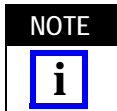
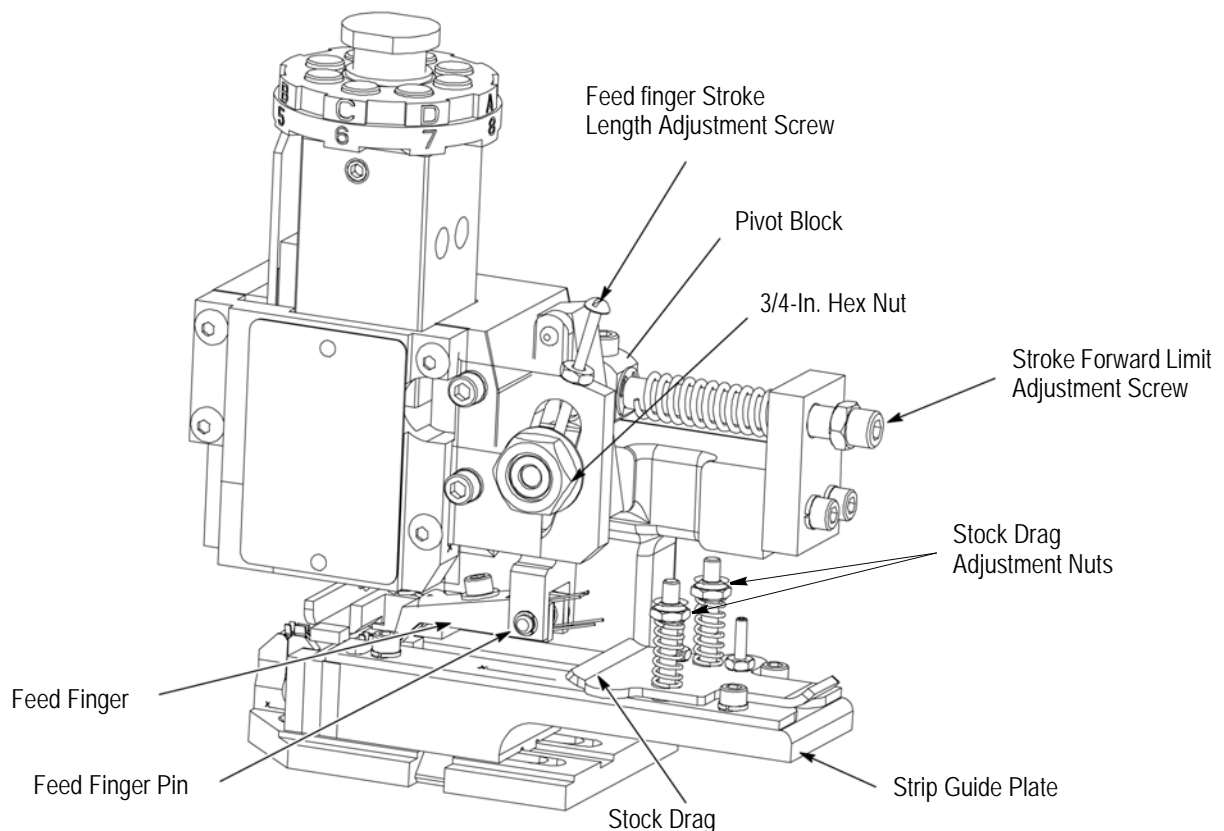
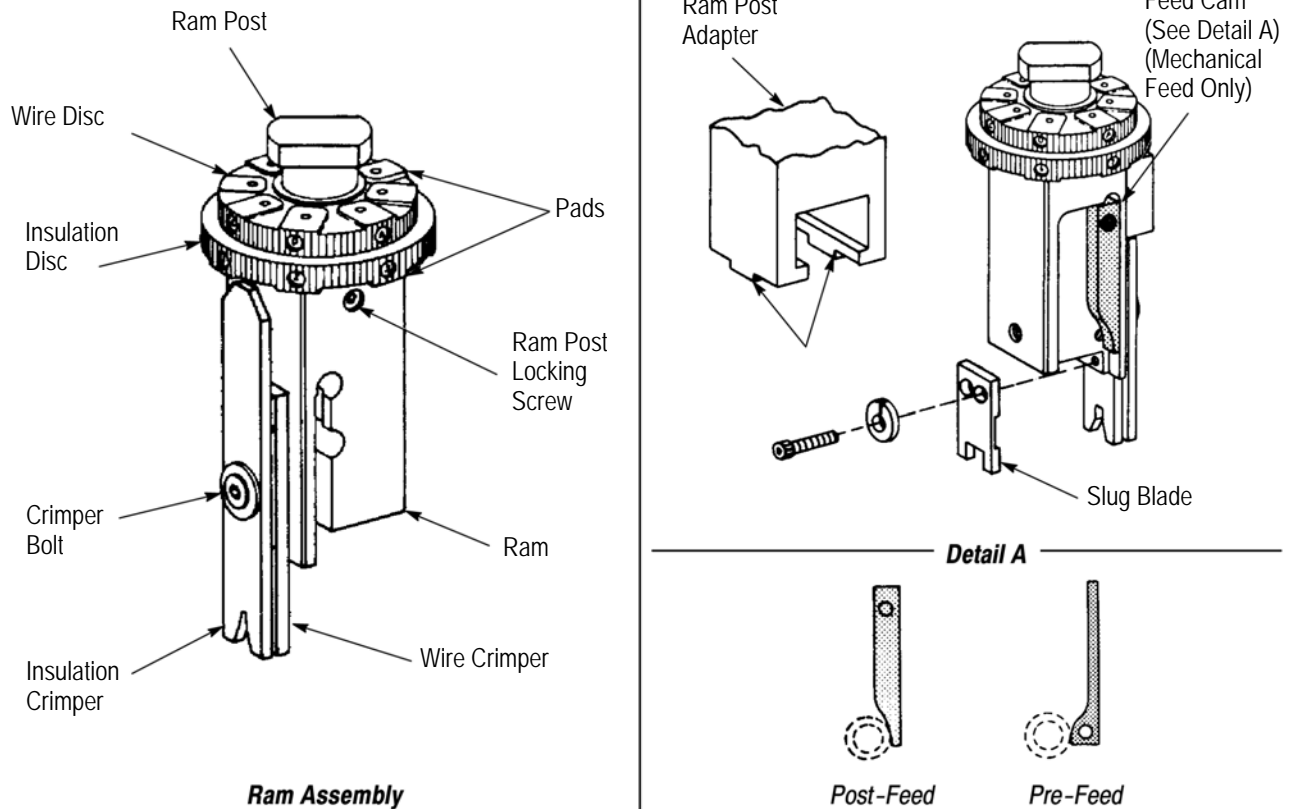

Figure 1
Figure 2
Figure 3
Heavy Duty Miniature Quick-Change Applicators (Figure 1) apply end-feed strip terminals to pre-stripped wires. Each applicator accepts the strip form of certain terminals, which are identified on the applicator parts list and exploded view drawing (Applicator Log) for each applicator. The terminal listed on the data plate is the one that was specified when the applicator was ordered.
The main components of the applicators with mechanical feed are identified in Figure 1 and Figure 2. The ram assembly is shown in detail in Figure 3. Figure 5 and Figure 6 show the applicators with air feed.
The ram post (also referred to as the ram mounting post) engages the post adapter of the machine ram, and it is the machine ram that actuates the applicator. Just below the ram post are the wire disc and insulation disc. The wire disc has as many as four pairs of pads, depending on the number of different wire sizes the terminals will accept. Each pair of pads has a different height. By rotating the disc, each pair of pads can be lined up with the two bosses on the ram post adapter (see Figure 3) to change the length of stroke of the wire crimper over the anvil. The insulation disc contains eight pads of different heights. When this disc is turned, the pads line up with the top of the insulation crimper to change the insulation crimp height.
2. Turn wire disc (upper disc) to line up selected pad letter with BOSSES ON RAM POST ADAPTER (see Figure 3). This provides the right crimp height for that wire size.
a. Applicators with mechanical-feed systems (Figure 2) -